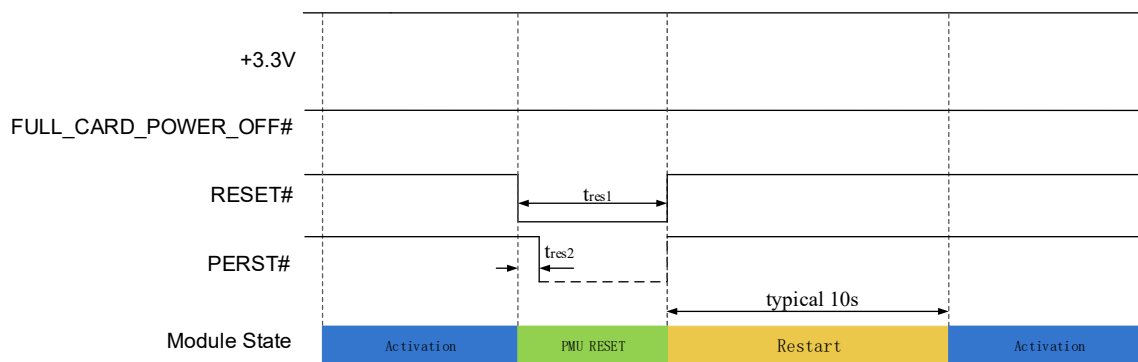

Figure 3-8 Reset control timing1st
- Host may keep FULL_CARD_POWER_OFF# high when system restarting, module reset timing is shown in the Figure 3-8;